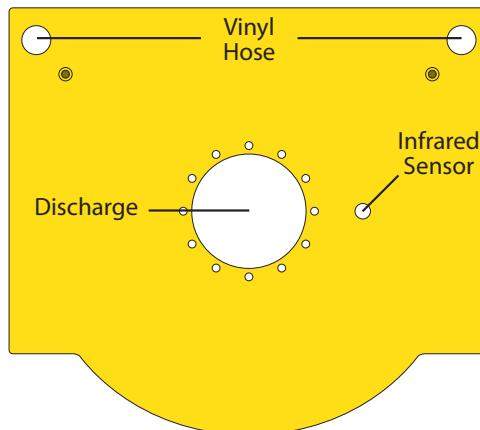

FIG. 25
- 25** Install the Dust Sentry's (I) infrared sensor (I) to the pre-cut hole on the Wall Bracket (F). FIG. 25].